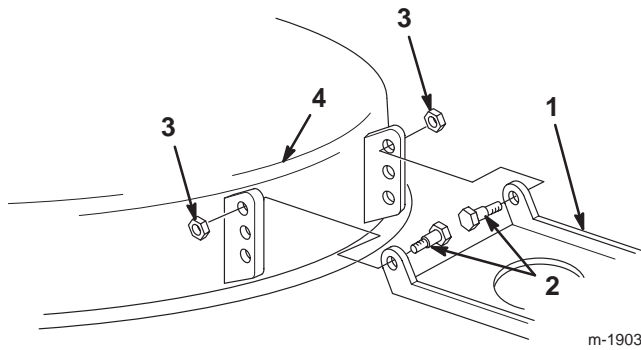

Figure 47
18. If you cannot get a 1/4 to 5/8 in. (6 to 16 mm) front slope by rotating the slope adjusting nut, move the mower pivot mount at the mower (Fig. 47).
19. Remove the shoulder bolts and locknuts from the mower (Fig. 47).
20. Lower the mower pivot a hole and install the shoulder bolts and locknuts (Fig. 47).